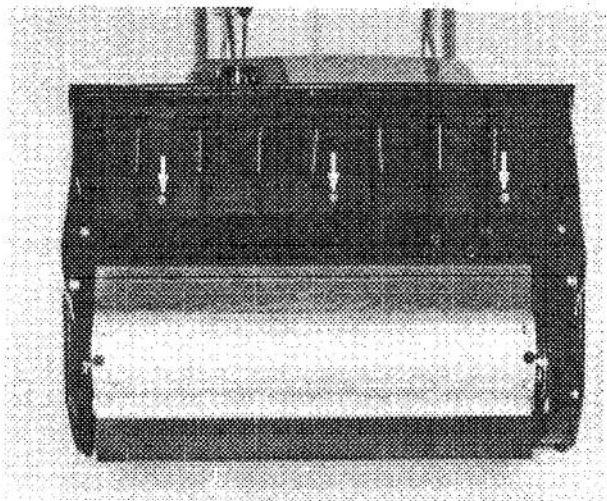

Figure 20
1. Remove three screws holding front of shroud to impeller housing (Fig. 20).
9. Secure front of shroud to impeller housing with three $\frac{3}{4}$ inch long (19 mm) screws (Fig. 20).